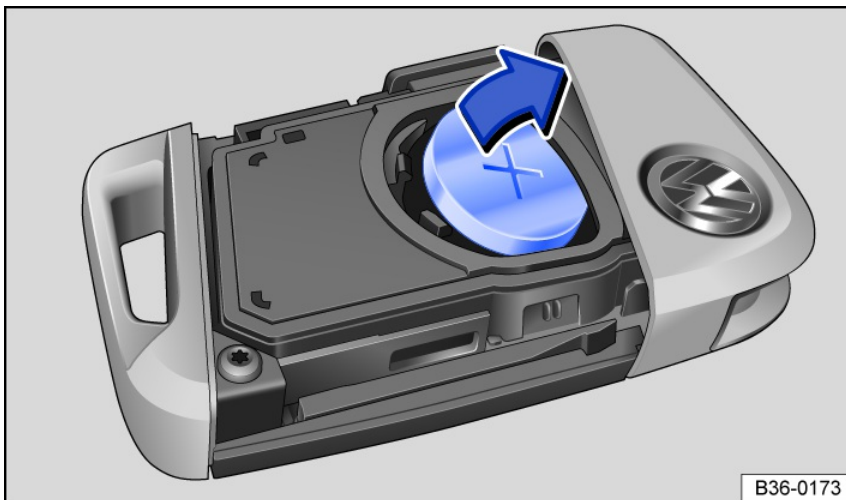

Fig. 53 Vehicle key: replacing the button cell battery
- Lift the button cell battery out of the battery compartment *fig. 53*.